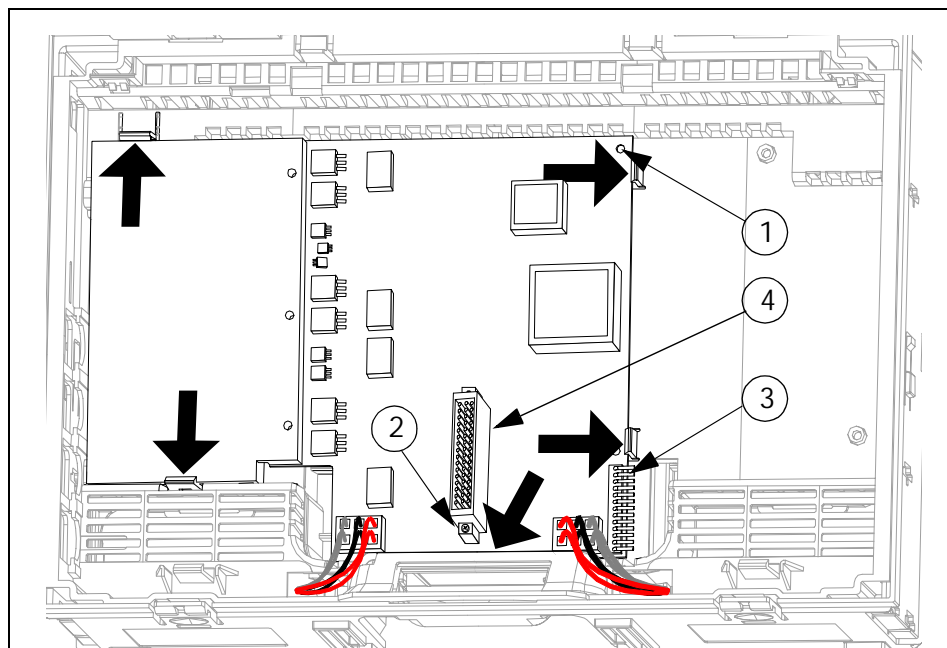

Fig. 3-20 Location of Positioning Pedestal/Post ① and Locking Tabs Securing Power Conversion Board
The Power Conversion Board Subassembly is located behind the Processor Board in the RFI cage. It is positioned by its shape and one positioning pedestal/post ①. Refer to Fig. 3-20. It is secured in position by a screw ② on the end of board-mounted connector X4, and by five locking tabs (see heavy arrows).
- 2) With the remainder of the integrated subassembly back-side down on a clean flat surface, unplug the power supply connector to the Front End Board from X1 (③ in Fig. 3-20) on the power conversion PC board.
- 4) Remove and save the Phillips-head screw at the bottom end of connector X4 (④ in Fig. 3-20). Keeping a slight upward pressure on the board, press in the tabs at the top and bottom of the right-hand side and the tab at the docking station connector cavity.
- 1) With the RFI cage oriented as shown in Fig. 3-20, slide the heat sink of the Power Conversion Board Subassembly under the upper left-hand locking tab and against the left side of the cage.